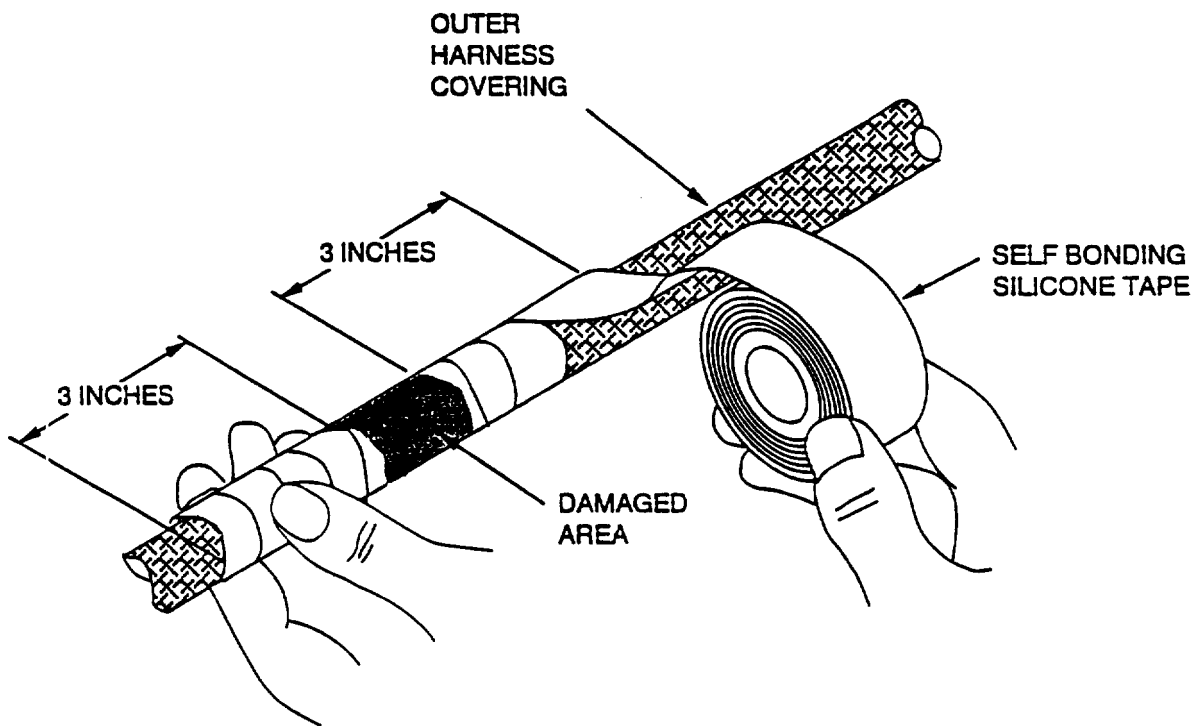

Figure 46. Overbraid Repair
l. Using self-bonding silicone tape, beginning 3 inches on either side of damage and extending 3 inches beyond damage, wrap tape around harness, overlapping each wrap 50 percent (Figure 46).